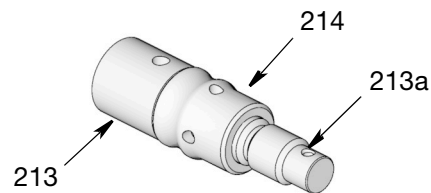
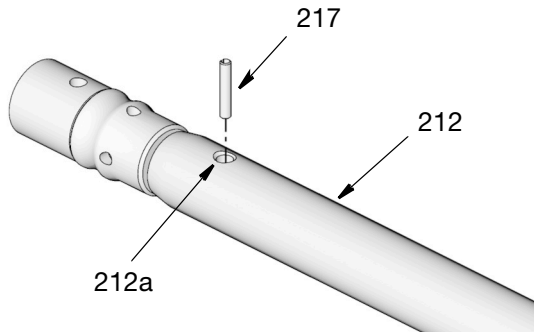

FIG. 38
FIG. 39
5. Slide together the piston rod (213) and the piston seal (214) (FIG. 38).
6. Thread the piston rod (213) into end of the displacement rod (212). Hand tighten the two pieces together securely, ending with hole (213a) (FIG. 38) aligned with hole (212a) (FIG. 39).
- Install the pin (217) through the aligned holes (213a) (FIG. 38) and (212a) (FIG. 39). Support the rods (212 and 213) as needed to ensure that the rods do not bend. Use a pick and hammer to seat the pin inside the rods.